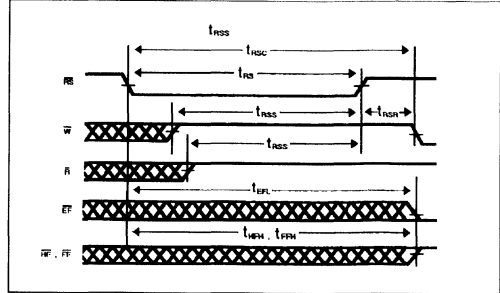

Figure 2 : Reset.
Reset occurs whenever the Reset ( $\overline{RS}$ ) input is taken to a low state. Reset returns both internal read and write pointers to the first location. A reset is required after power-up before a write operation can be enacted. Both the Read Enable ( $\overline{R}$ ) and Write Enable ( $\overline{W}$ ) inputs must be in the high state during the period shown in figure 2 (i.e.  $t_{RS}$  before the rise edge of  $\overline{RS}$ ) and should not change until  $t_{RS}$  after the rise time of the leading edge of  $\overline{RS}$ . The Half-Full flag (HF) will be reset to high after Reset ( $\overline{RS}$ ).